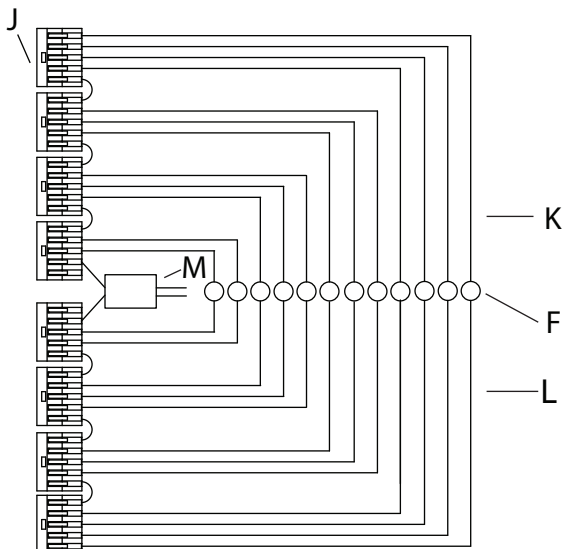

Fig. 3
1. Shut off power to the outlet box (A).
2. Unscrew glass (B) from fixture (C).
3. Determine the height at which the fixture is to be hung. Use the screwdriver (D) to loosen the set screw (E). Feed the power cords (F) through the bushings (G) on the canopy (H). Adjust the cord (F) to the desired length. Tighten the set screws to set.
4. Connect the fixture wires to the lever nuts (J) by pulling up on the lever for an empty slot (Fig. 2), inserting the wire, and pushing the lever back down to lock. The white inner conductor (K) and black outer conductor (L) on each cord (F) must be connected to separate lever nuts, as shown (Fig. 3).
5. Reserve transformer (M), extra cords (F), and lever nuts (J) in canopy (H).